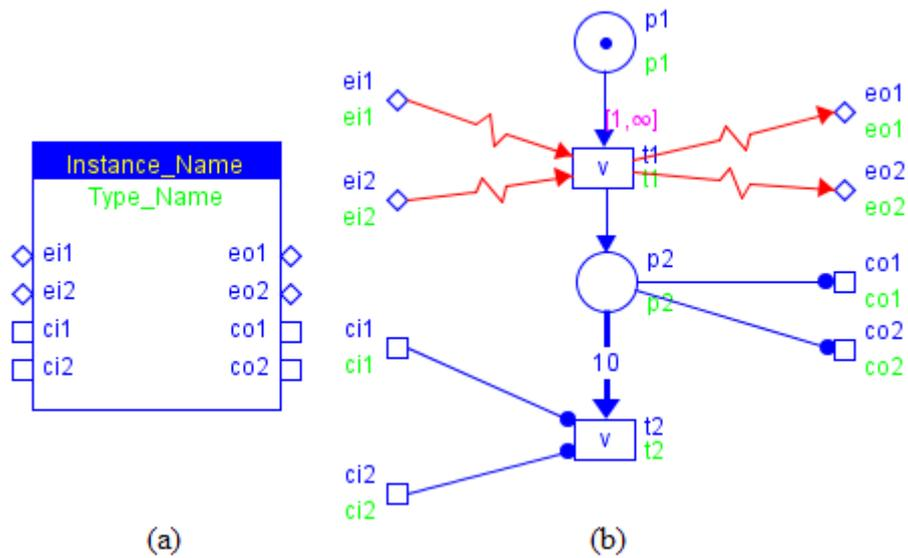

Figure 3 A Sample Basic NCES Module: (a) Module Interface, and (b) Module Content
- The module interface shows the port names and type information. The Instance Name is yellow and the Type Name is green. In basic NCES mode, type name and instance name are identical as shown in Figure 3 (a), whereas in composite NCES mode, you can define your own instance name. In this guide, normal text is used for Instance\_Name and **Bolded** text is used for **Type\_Name**.